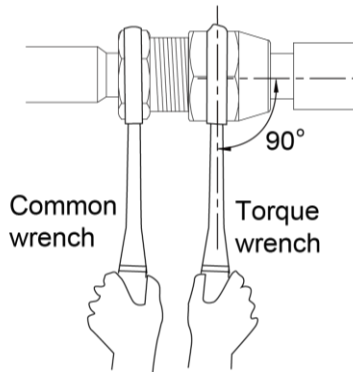

Fig. 14
- (3) Use torque wrench to twist on the flared nut tightly until the wrench gives out a click sound. (Hold the handle of wrench and make it at right angle to the pipe. as in Fig.14)
- (4) Use sponge to wrap the un-insulated connection pipe and joint. Then tie the sponge tightly with plastic tape.
- (5) Connection pipe should be supported by a bearer rather than the unit.
- (6) The bending angle of piping should not be too small; otherwise the piping might have cracks. Please use a pipe bender to bend the pipe.
- (7) When connecting IDU with connection pipe, do not pull the big and small joints of IDU with force in case the capillary tube or other tubes have cracks and cause leakage.